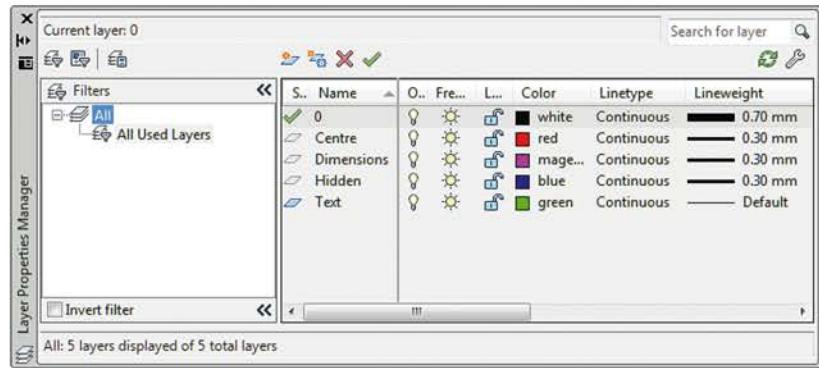

Fig. 5.15 The Layer Properties Manager palette
1. At the keyboard, *enter* **layer** or **la** and *right-click*. The **Layer Properties Manager** palette appears (Fig. 5.15).